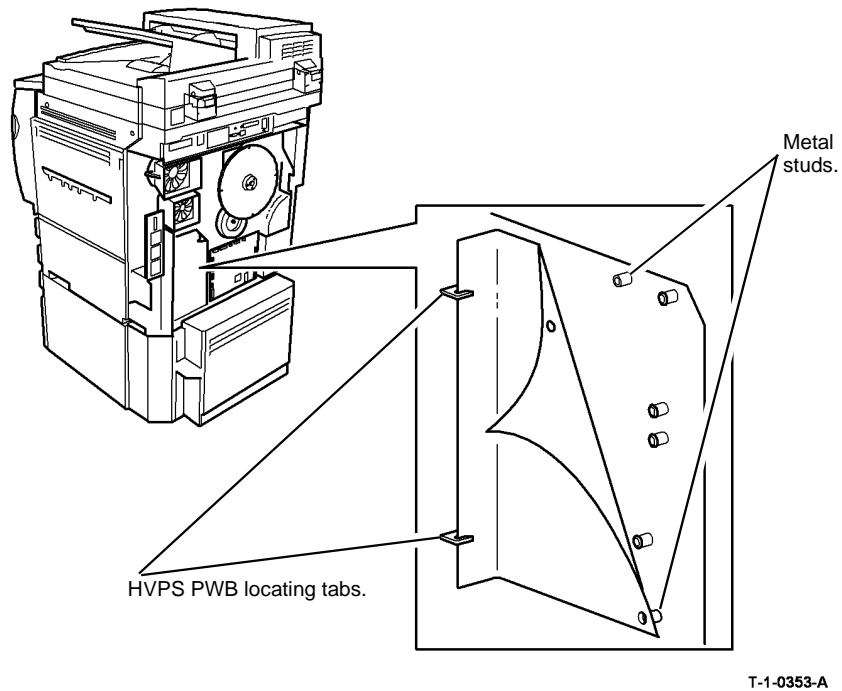

Figure 3 HVPS insulator and push clips
2. **Figure 3.** Ensure that the white plastic insulator underneath the HVPS is seated correctly under the locating tabs and over the two metal studs.